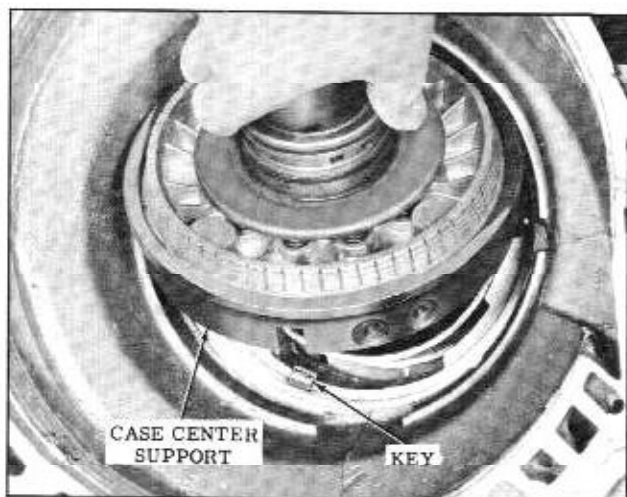

Fig. 3-94 Installing Case Center Support
5. Install the case center support assembly aligning keyway in support with key. (Fig. 3-94)